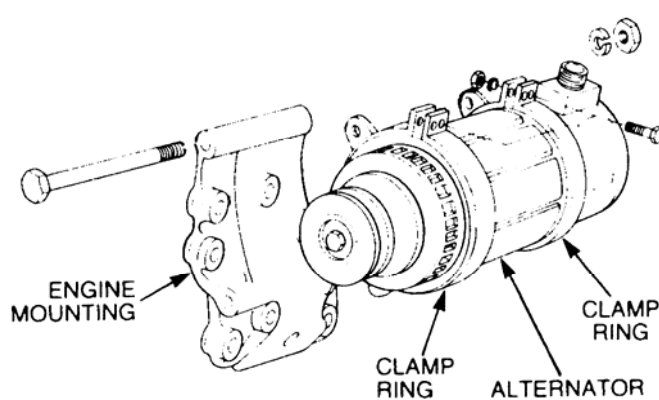

Figure 3 Alternator Installation
- Fit the two clamp rings onto the 28 volt alternator and install the four bolts, nuts and washers (refer Figure 3).